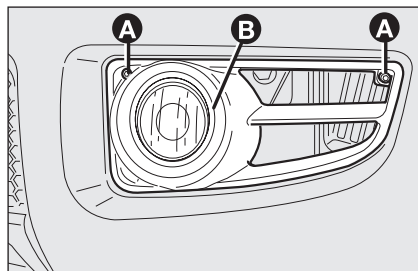

fig. 18
- loosen the two fastening screws **A**-fig. 18 and remove the cover **B**;